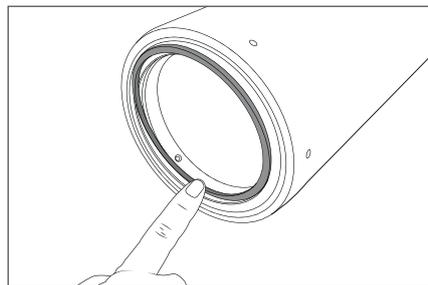

Figure 1
2. The new INOflex® seal is now inserted into the groove on one side and slightly pressed on. (Figure 1)